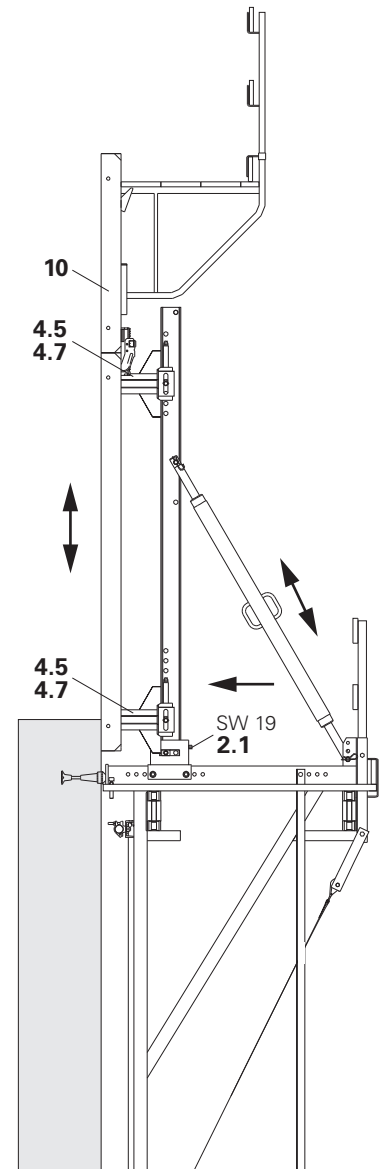

Fig. B2.23
5. Insert formwork unit (10) with MAXIMO Lifting Hook (10.6) into the Connectors CB (4.5) and secure using bail pin (4.7).
- (Fig. B2.23)